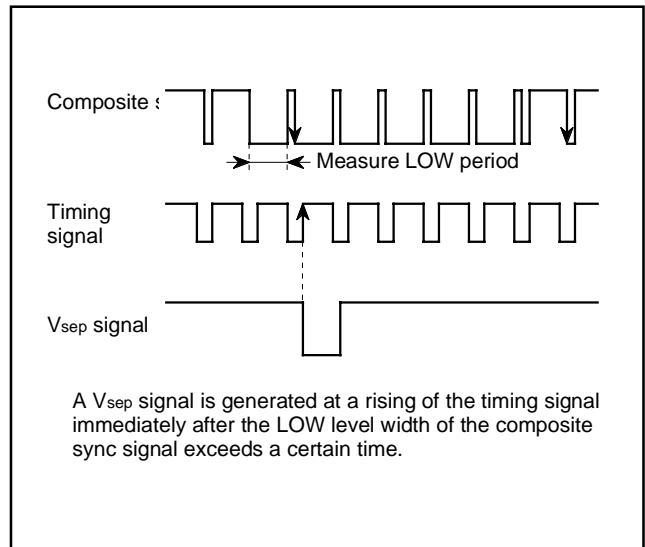

Fig. 8.10.6 Vsep Generating Timing (method 2)
- Method 2 The LOW level width of the composite sync signal is measured. If this width exceeds a certain time, it is detected whether a falling of the composite sync signal exits or not in the LOW level period of the timing signal immediately after this LOW level. If a falling exists, a V_{sep} signal is generated in synchronization with the rising of the timing signal (refer to Figure 8.10.6).
Figure 8.10.6 shows a V_{sep} generating timing. The timing signal shown in the figure is generated from the reference clock which the timing generating circuit outputs.